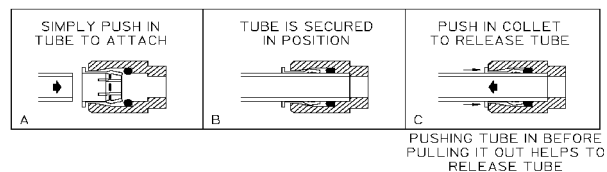

FIG. 2
3. Connect fountain to supply line with a shut-off valve and install a 3/8" unplated copper water line between the valve and the cooler. Remove any burrs from outside of water line. Push the tubes straight into the fittings until they reach a positive stop, approximately 3/4" (see Fig. 2). **DO NOT SOLDER TUBES INSERTED INTO THE STRAINER AS DAMAGE TO THE O-RINGS MAY RESULT.**
Actuation of Quick Connect Water Fittings: Fountain is provided with lead-free connectors which utilize an o-ring water seal. To remove tubing from the fitting, relieve water pressure, push in on the gray collar while pulling on the tubing. (See Fig.2) To insert tubing, push tube straight into fitting until it reaches a positive stop, approximately 3/4".